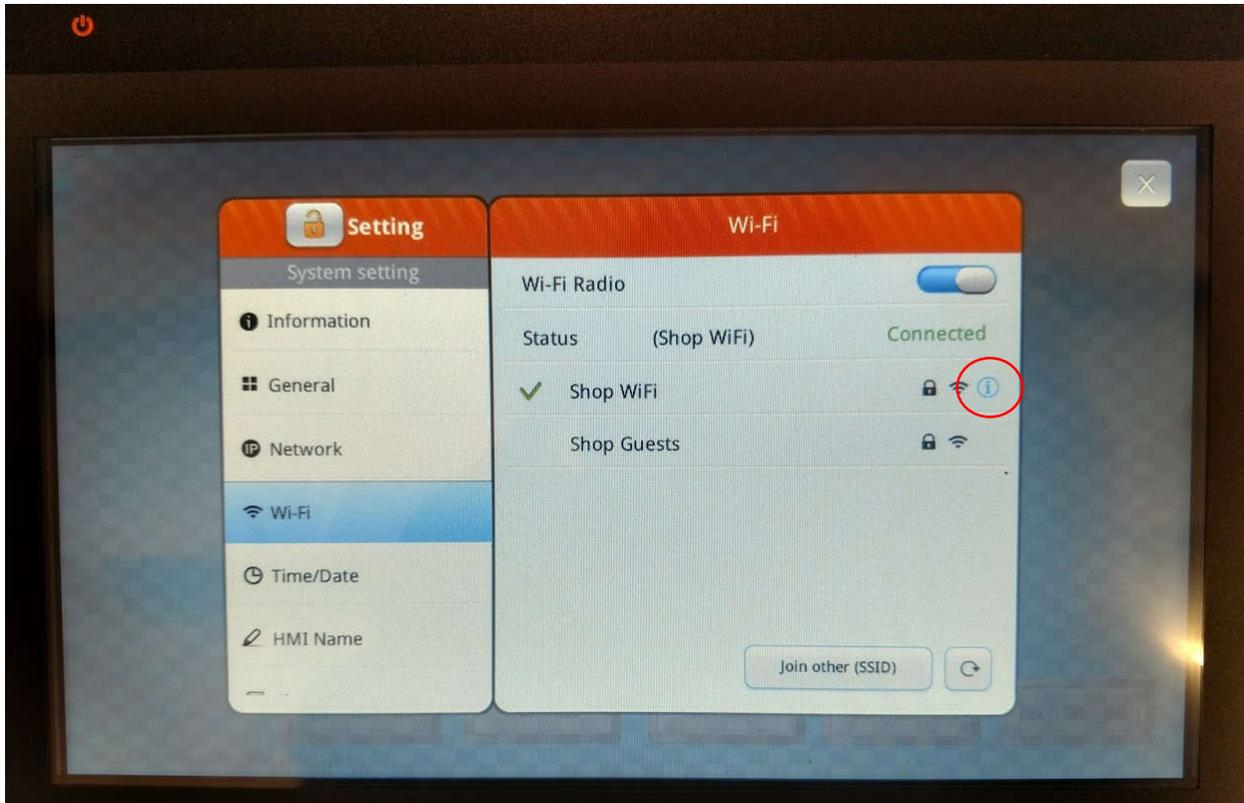
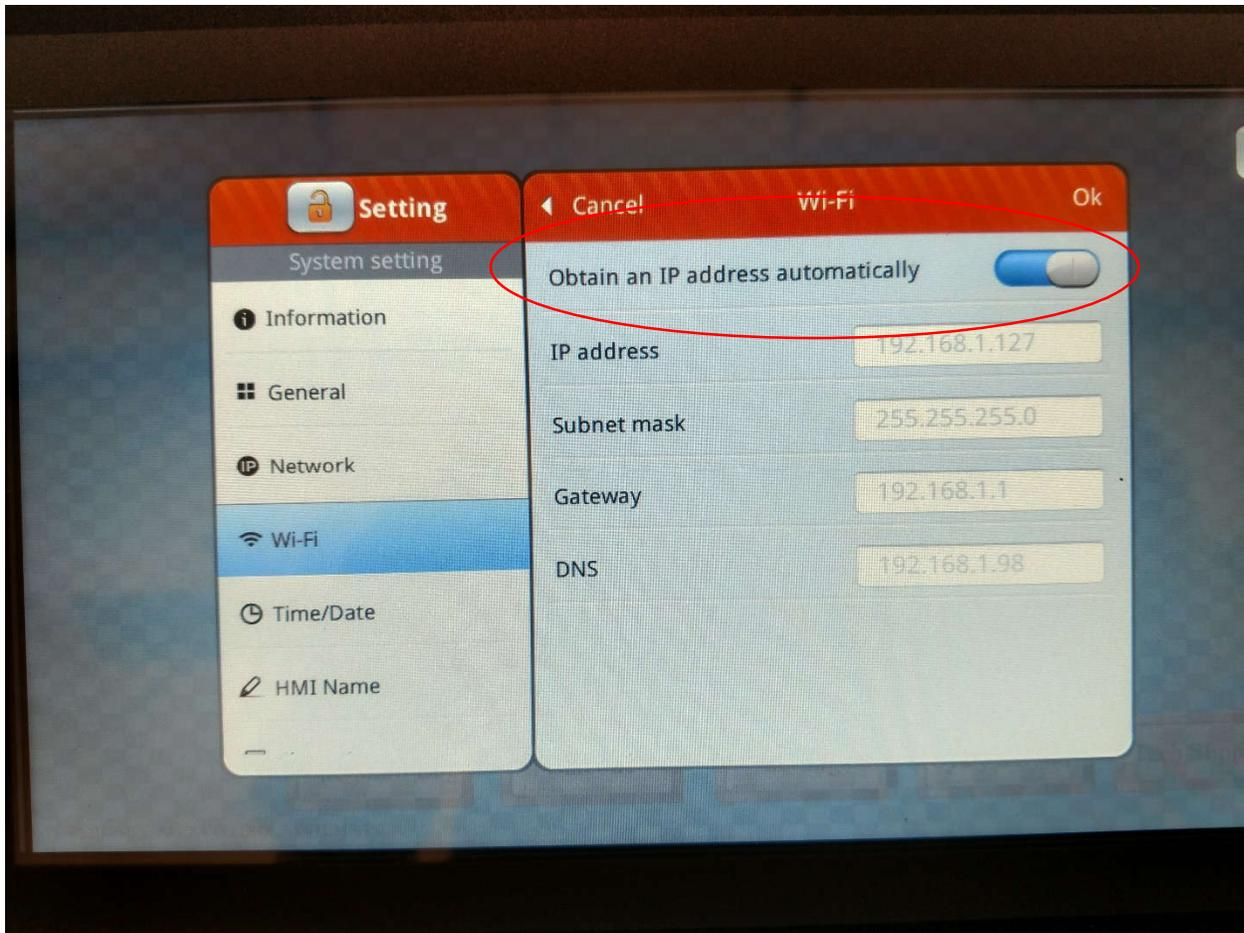

FIG. 5 Wi-Fi menu
FIG. 6 IP address settings
4. Once this menu is unlocked all the touchscreen settings can be changed. For the purpose of this manual, only the settings required for wireless connectivity will be discussed. Press the “Wi-Fi” button. This will open a screen that shows all of the available wireless networks. This screen is shown in fig. 5.
6. The last step in setting up the wireless connection is to check the IP address. This is done by clicking on the information “i” shown next to the signal strength indicator in fig. 5. This pulls up the screen shown in fig. 6. Make sure the slider is to the right next to “Obtain an IP address automatically”. This is **very** important if wireless connectivity is desired.
7. Once this is done, record the IP address and hit ok. This should open the screen shown in fig. 5. Now press the large “x” in the upper right corner. This should close the menu. The wireless connectivity is now ready for use.